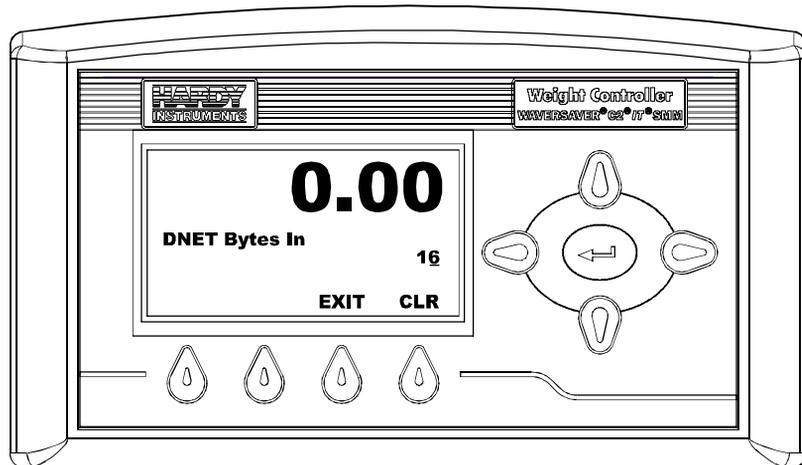

FIG. 122 DNET BYTES IN MENU
Step 13. Press the Enter button. The “DNET Bytes In” menu appears. (See Fig. 122)